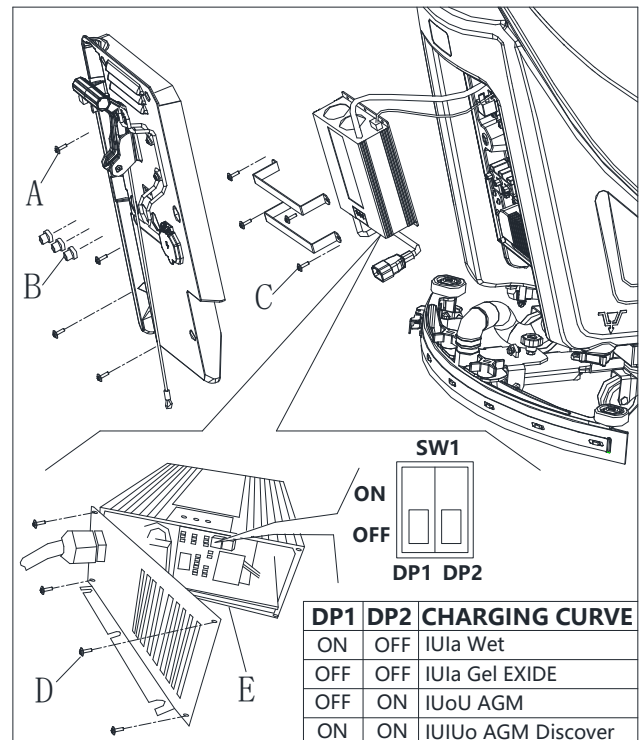

Figure 4.1
6. Remove the screws (A, B, C, D, Figure 4.1).
7. Open the charger and find the sw1 (E, Figure 4.1).
8. Set the switches as the table of (Figure 4.1).
9. Install the screws (A, B, C, D, Figure 4.1) after setting complete.